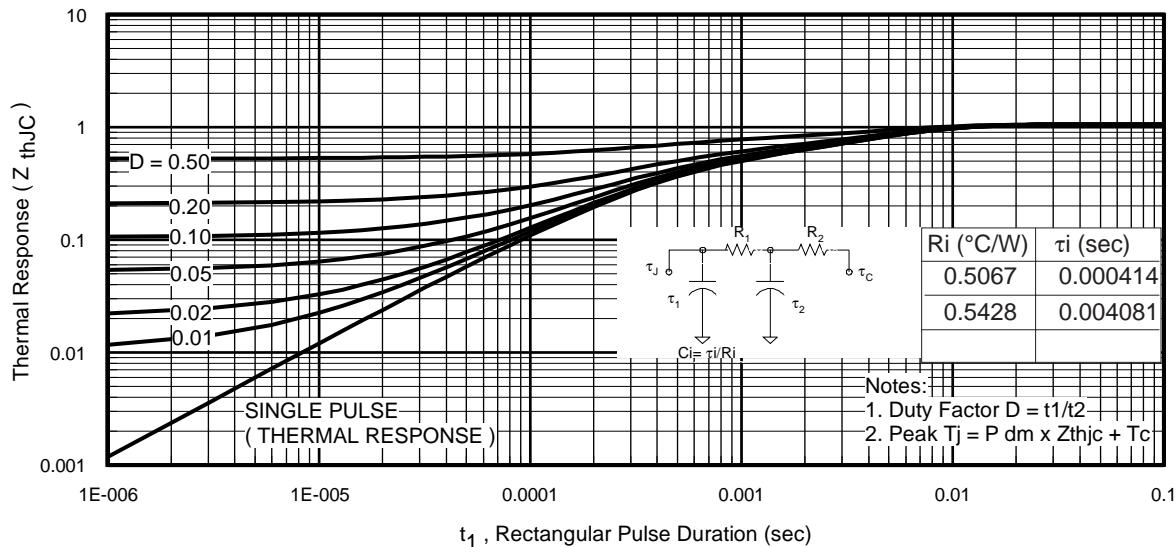
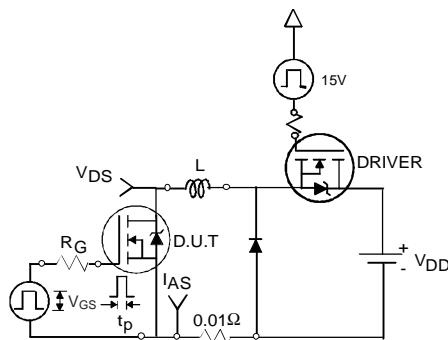

Fig 11. Maximum Effective Transient Thermal Impedance, Junction-to-Case
Fig 12a. Unclamped Inductive Test Circuit
3. Equation below based on circuit and waveforms shown in Figures 12a, 12b.
$Z_{thJC}(D, t_{av})$ = Transient thermal resistance, see figure 11)
- ① Repetitive rating; pulse width limited by max. junction temperature. (See fig. 11).
- ② Limited by T_{Jmax} , starting $T_J = 25^\circ C$, $L = 0.16mH$ $R_G = 25\Omega$, $I_{AS} = 42A$, $V_{GS} = 10V$. Part not recommended for use above this value.
- ③ Pulse width $\leq 1.0ms$; duty cycle $\leq 2\%$.
- ④ $C_{oss\ eff}$ is a fixed capacitance that gives the same charging time as C_{oss} while V_{DS} is rising from 0 to 80% V_{DSS} .
- ⑤ Limited by T_{Jmax} , see Fig.12a, 12b, 15, 16 for typical repetitive avalanche performance.
- ⑥ This value determined from sample failure population. 100% tested to this value in production.
- ⑦ When mounted on 1" square PCB (FR-4 or G-10 Material). For recommended footprint and soldering techniques refer to application note #AN-994